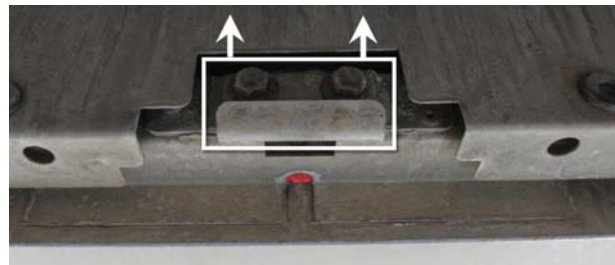

FIGURE 58 : KEEPER
23. If the hatch has moved down, it may be necessary to move the keeper down slightly (FIGURE 58). To do so, loosen the mounting bolts (2 bolts) and move the keeper in the direction shown with arrows. Firmly tighten the keeper bolts once adjustment is done).